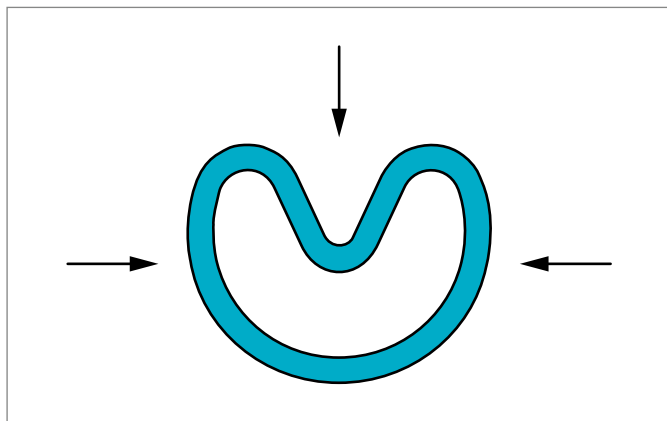

Figure 12: Kidney-shaped deformation
- Compress the Turcon® seal into a kidney shape, while avoiding sharp bends - see Figure 12. When a rod seal with notches is folded in kidney shape, take care to avoid bending the seal at the position of the notches as this may cause overstretch or damage to the seal material.